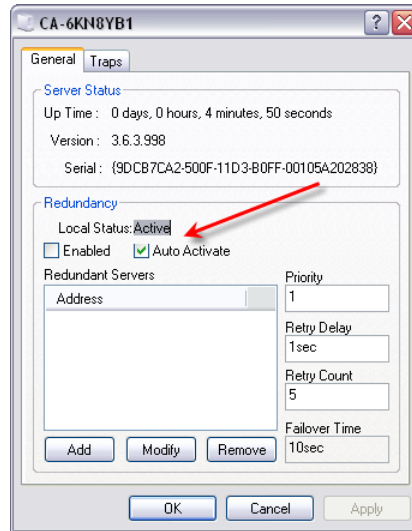

Figure 3-6 Server Properties, Auto Activate
2. In the **General** tab, check the box for **Auto Activate** as shown in figure 3-6. This will automatically activate the server processes the next time the VOS service is started.